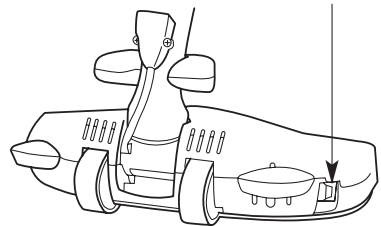

Fig. 2
- Locate the circuit breaker switch on the back of the power nozzle and press it to reset the breaker (Fig. 2). When the unit is turned back on, the warning light should be green.